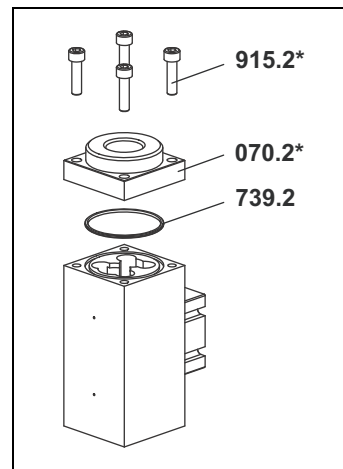

Fig. 3
4. Remove the socket screws **915.2\***, take off end cover **070.2\*** and o-ring **739.2**, see Fig. 3, page 26.